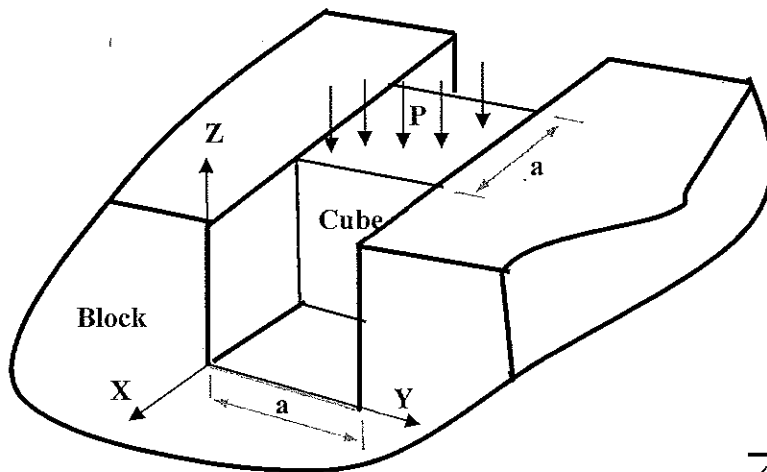

Figure Q1
- (iii) A cube of side "a" made from a material having Young's modulus "E" and Poisson's ratio "v" is kept inside a rigid block and pressed by applying a pressure P on top face as shown in Figure Q1. Assuming material is in a uniform stress state, find